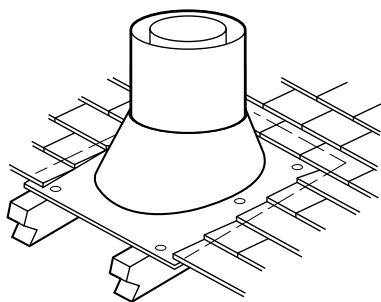

Figure 28
Step 7. Secure flashing by nailing along the perimeter into roof using 8d nails. If shingled roof, slide upper end and sides of roof flashing under shingles (trim if necessary), seal the top and both sides of the flashing to the roof with roof caulking. Cover nail heads with roof caulking (Figure 28).